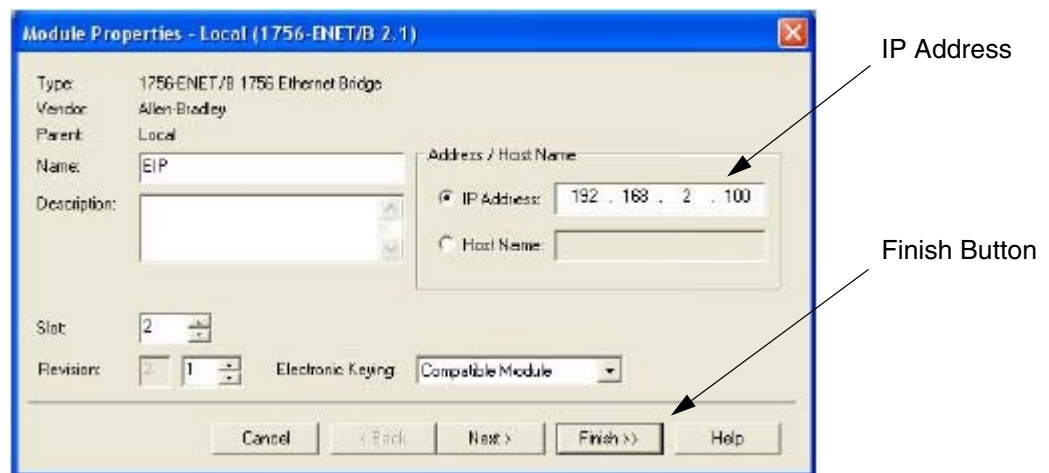

FIG. 69. Ethernet Module Properties
- c. In the Select Module Type window, choose 1756-ENET/B or 1756-ENBT/A entry. RSLogix will open the Module Properties window. See FIG. 69.
- i. Enter the IP Address and Subnet Mask. The IP Address must match the IP Address entered in the Properties window (FIG. 69).